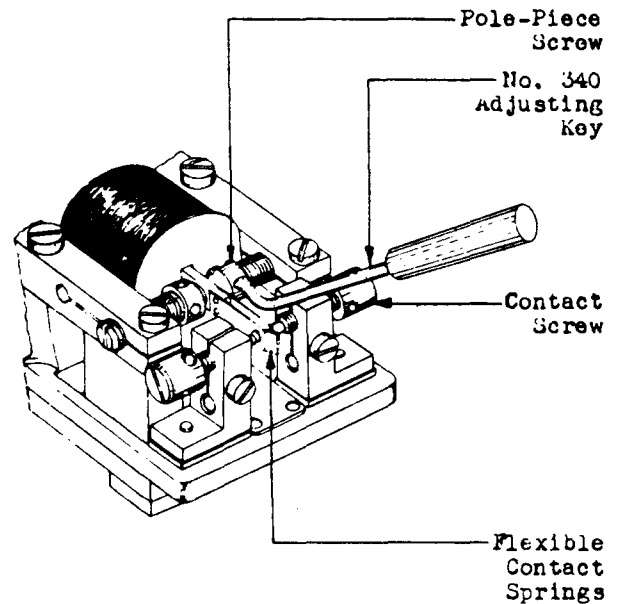

Fig. 10 – Method of Adjusting Pole-Piece Screw
(11) **Vibrating and Bias:** Advance the pole-pieces gradually, maintaining equal air-gaps on each side of the armature, using the No. 340 adjusting key as shown in Fig. 10, until the relay meets the vibrating and bias requirements covered in the section applying.
(12) If the relay fails to meet the bias and vibrating requirements simultaneously it is due to a mechanical bias in the relay. Loosen the armature clamping screws and the right-hand yoke mounting screws, with the 4" regular screwdriver and remove the armature. Check to see that the armature is straight, and if necessary, straighten it. Replace the armature and check for requirements 2.05 (Armature and Spool Clearance) and 2.06 (Contact Alignment) and readjust as covered in 3.05 and 3.06. Repeat the adjustment made in (8) to (11), above. Check that the sensitivity requirement is met.
(16) **Bias** — After adjusting as covered in (8), (9) and (10) advance both pole-piece screws gradually with the No. 340 adjusting key as shown in Fig. 10 maintaining approximately equal air-gaps on each side of the armature, until the relay meets the bias requirement covered in the section applying. Check that the sensitivity requirements are met.
(17) **Sensitivity Operate** — If the relay fails to meet the sensitivity operate requirement, it is an indication that the pole-piece screws are too close together. Back off the pole-piece screws with the No. 340 adjusting key as shown in Fig. 10 till the sensitivity operate requirement is met, taking care to maintain zero bias.
(19) **Contact** — If the contact requirement is not met it may be an indication of dirty contacts, large contact separation, poor connection in the contact circuit, unsatisfactory overall adjustment or weak magnets on the relay. Remagnetize weak magnets as covered in 3.002. Clean the contacts and repeat the adjustments outlined in (8), (9) and (10) and readjust for bias and sensitivity as covered in (16), (17) and (18).
(20) Place the 484A magnetic shunt on the relay and repeat (3), (4) and (5) as an additional check on the mechanical condition of the relay. If in (5) upon removal of shunt the bias now exceeds the test limit, or if after correcting the bias the sensitivity requirements are not met it is usually an indication that the armature is defective and requires replacement as covered in 3.05(10), after which readjust the relay as outlined in (8) to (10) and (16) to (19) inclusive. Then repeat the tests outlined in this paragraph.